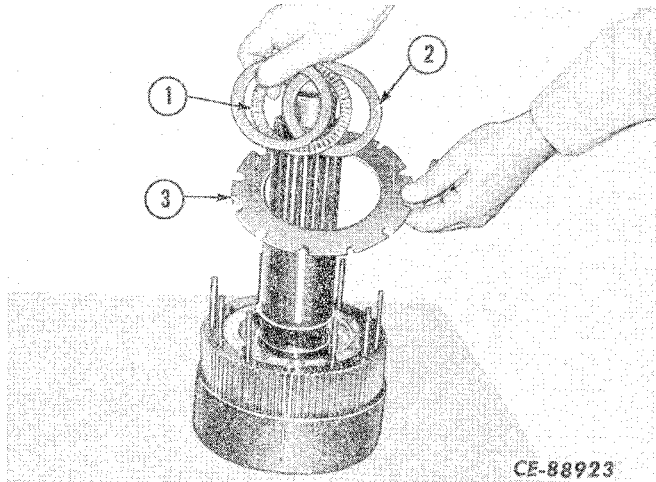

Figure 4-112
Remove the thrust washers (2, Fig. 4-112) and thrust bearing (1) that make up the thrust bearing assembly. Remove the spring retaining plate (3).